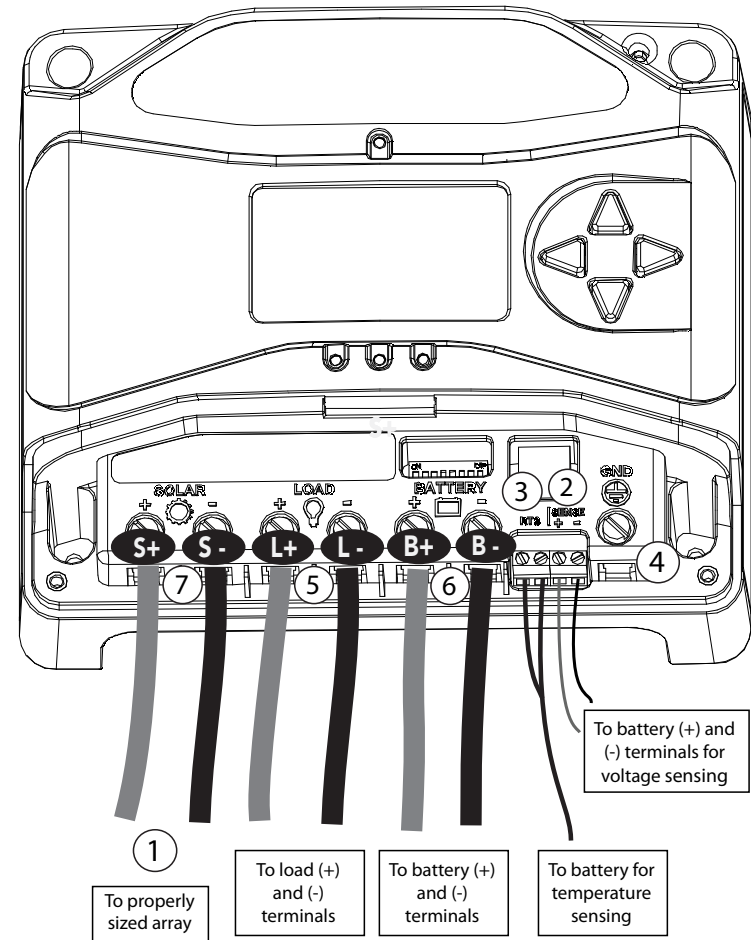

Figure 3-3. Wiring the PS-MPPT
**REFER TO FIGURE 3.3 WHEN USING THE WIRING INSTRUCTIONS BELOW.**
The two sense wires, can range in size from 1.0 to 0.25 mm2 (16 to 24 AWG), and should be cut to length as required to connect the battery to the voltage sense terminals. A 2-position terminal (see figure 3.3) is used for the battery sense connection. A twisted pair cable is recommended but not required. Use UL rated 300 Volt conductors. The voltage sense wires may be pulled through conduit with the power conductors.